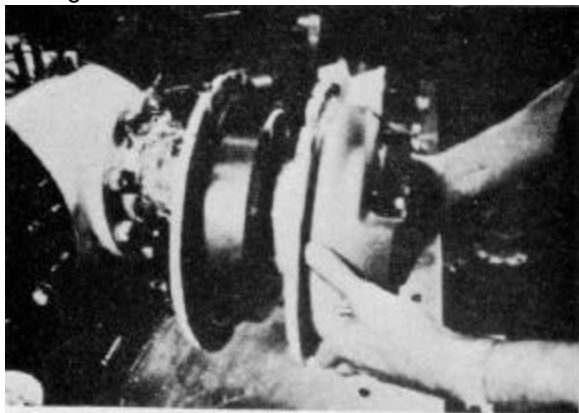

Figure 5-25
3. Pull off the gear housing and oil seal assembly. Examine the lip of the oil seal for nicks or damage. Examine the final drive housing, oil seal surface for scratches or damage. See Fig. 5-25 showing removal of housing.